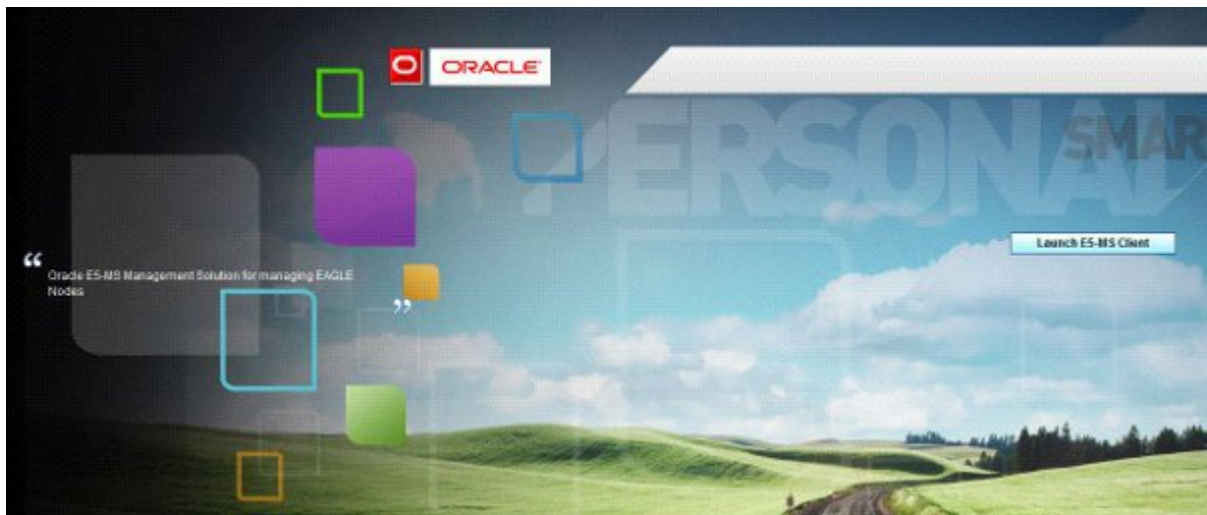

Figure 2: E5-MS Launch Screen
The E5-MS Graphical User Interface (GUI) provides a comprehensive geographical view for users to monitor and control their EAGLE system network. The user receives real-time performance data from the EAGLE system that assists in maintenance operations. The System Administrator and Users launch the E5-MS and log in from a client workstation as shown in Figure 2: E5-MS Launch Screen.
1. Click **Launch E5-MS Client** on the **E5-MS Launch** screen (see Figure 2: E5-MS Launch Screen).